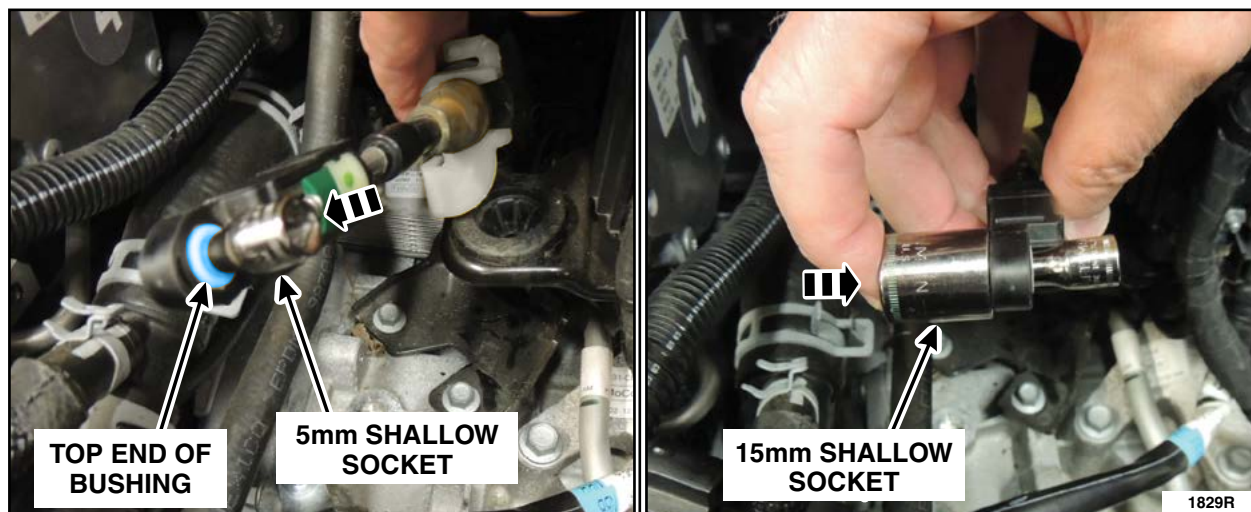

FIGURE 6
- Using a 5mm and a 15mm socket with Straight Jaw Adjustable pliers the bushing can be pressed out of the shifter cable end. The 5mm socket will fit into the small part of the bushing on top, the 15mm will go against the bottom of the shifter cable end, make sure to have socket centered with the bushing to allow clearance of the bushing shoulder as it is being pressed out. See Figures 6 and 7.